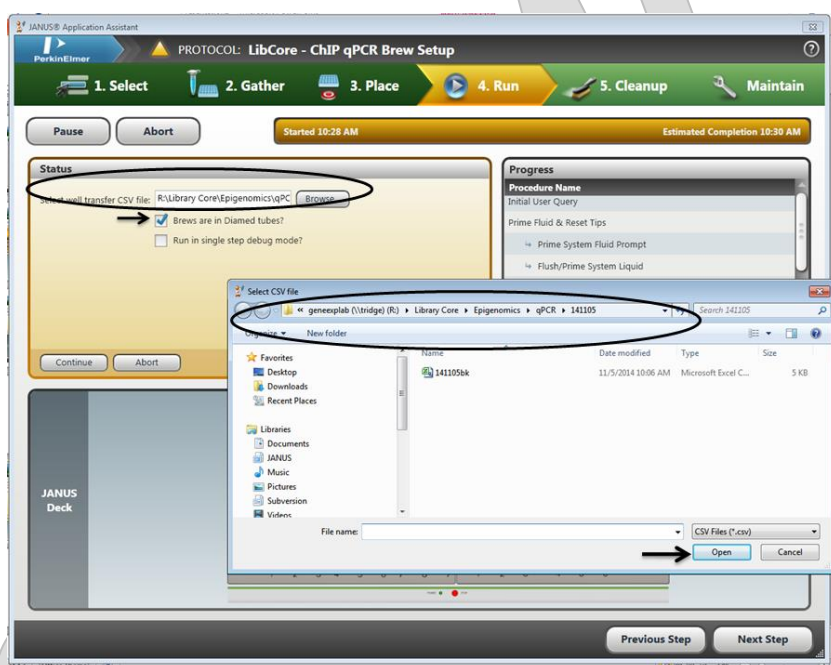

Figure 9: Selecting the CSV file
- 3.21. Click “Browse...” and select the CSV file that was created in Step 3.8. Click 'Open' once the CSV file has been selected (Figure 9).